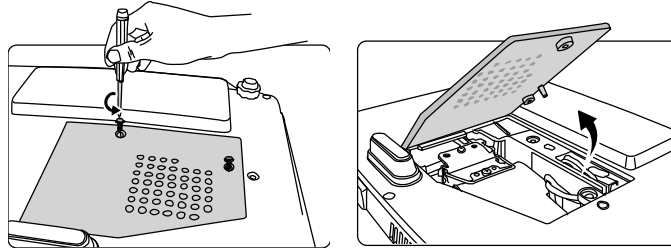

Figure 1. Removing Lamp Cover.
3. Using a flat tipped screwdriver remove two cover screws as shown in Figure 1.
4. Lift and remove cover as shown in Figure 1 to expose the projector lamp module.